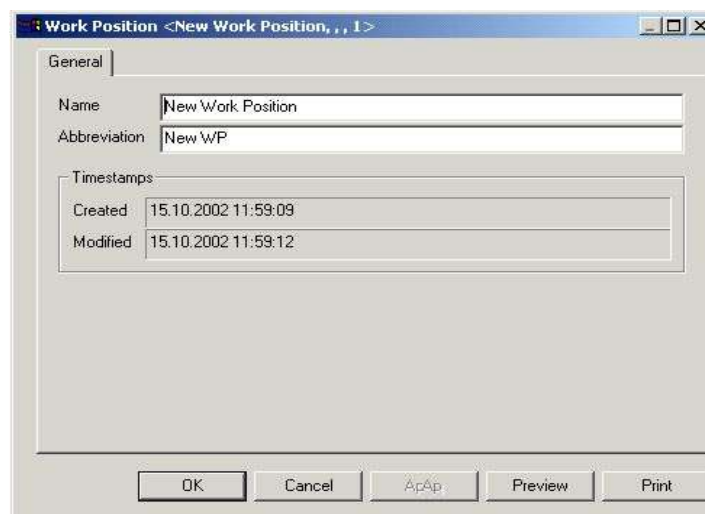

Figure 3: Creating a New Work Position – Dialog Box
- 3) Enter the general work position data in the dialog box. The new work position has now been created and is ready for editing. Editing requires the respective dialog box to be open. Confirm the entries with **OK**. Please refer to the Figure 3.